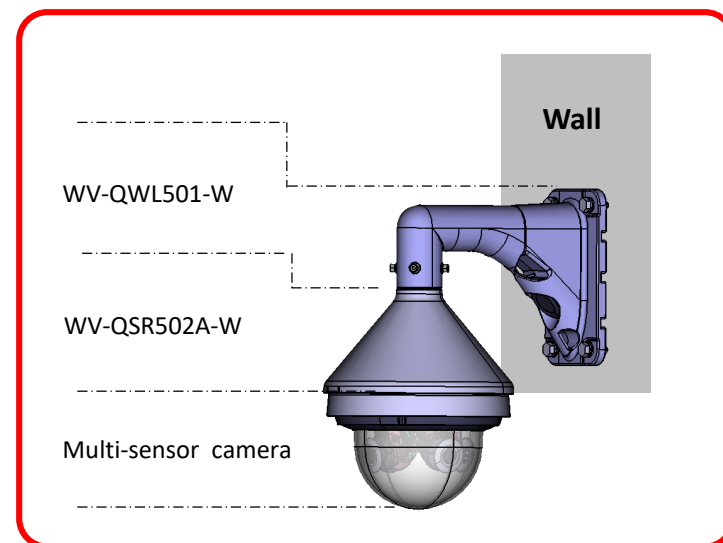

Figure 1: Camera installation condition
3. The camera is installed as shown in Figure 1 on page 1